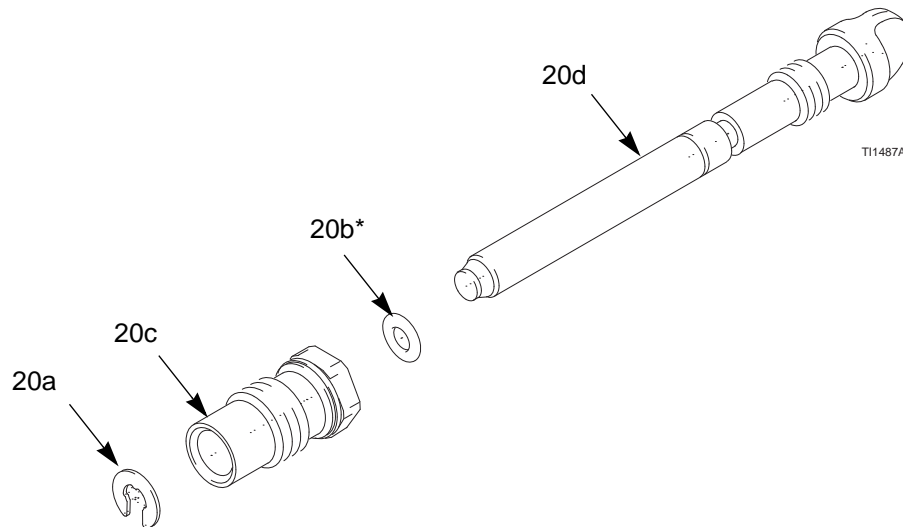

Fig. 32. Fan Air Adjustment Valve
3. Remove the retaining ring (20a). See FIG. 32..